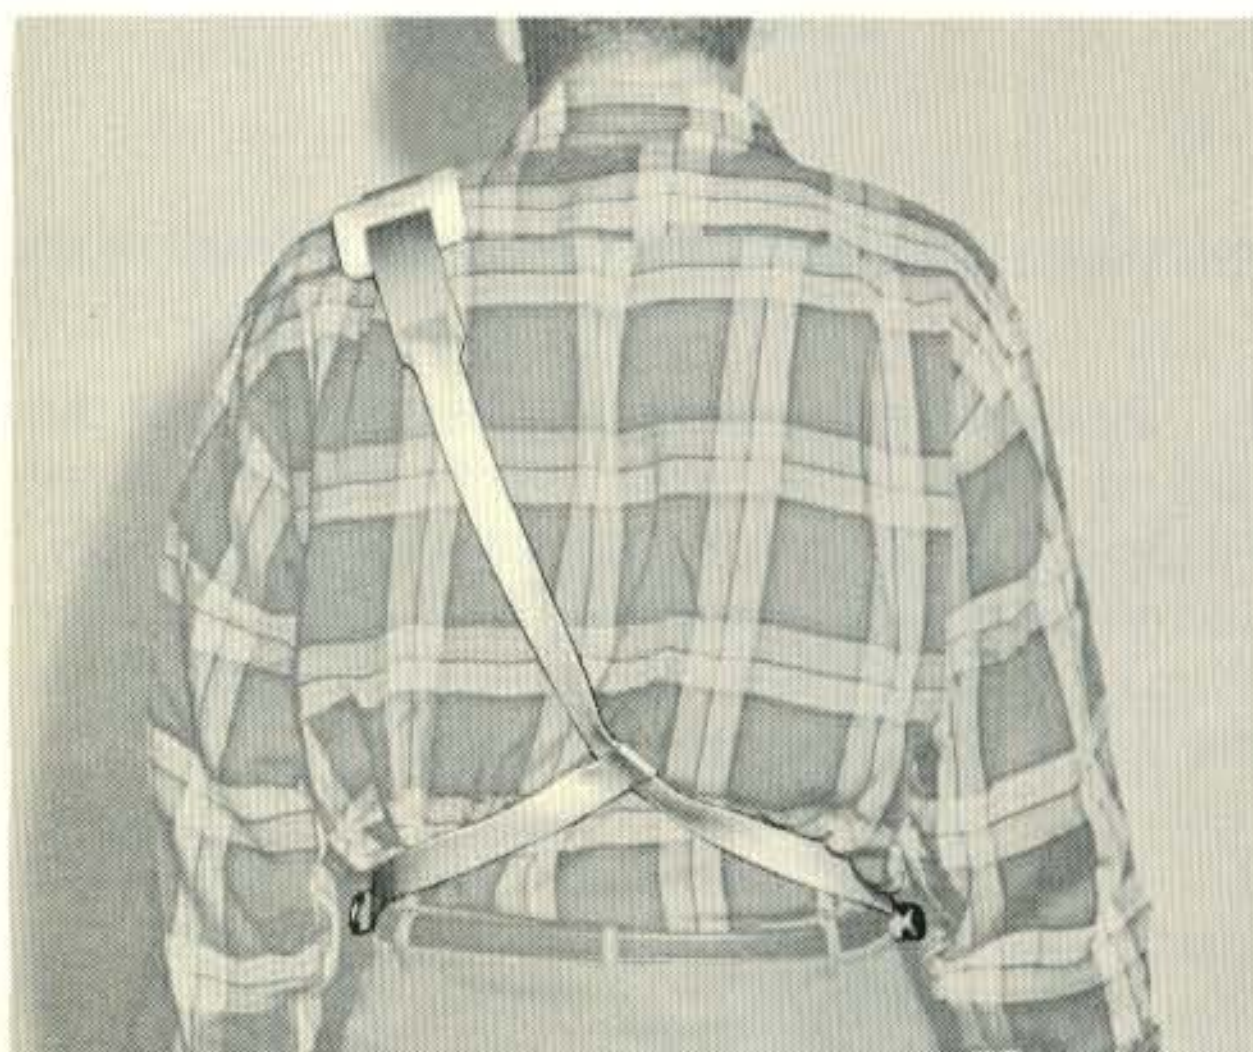
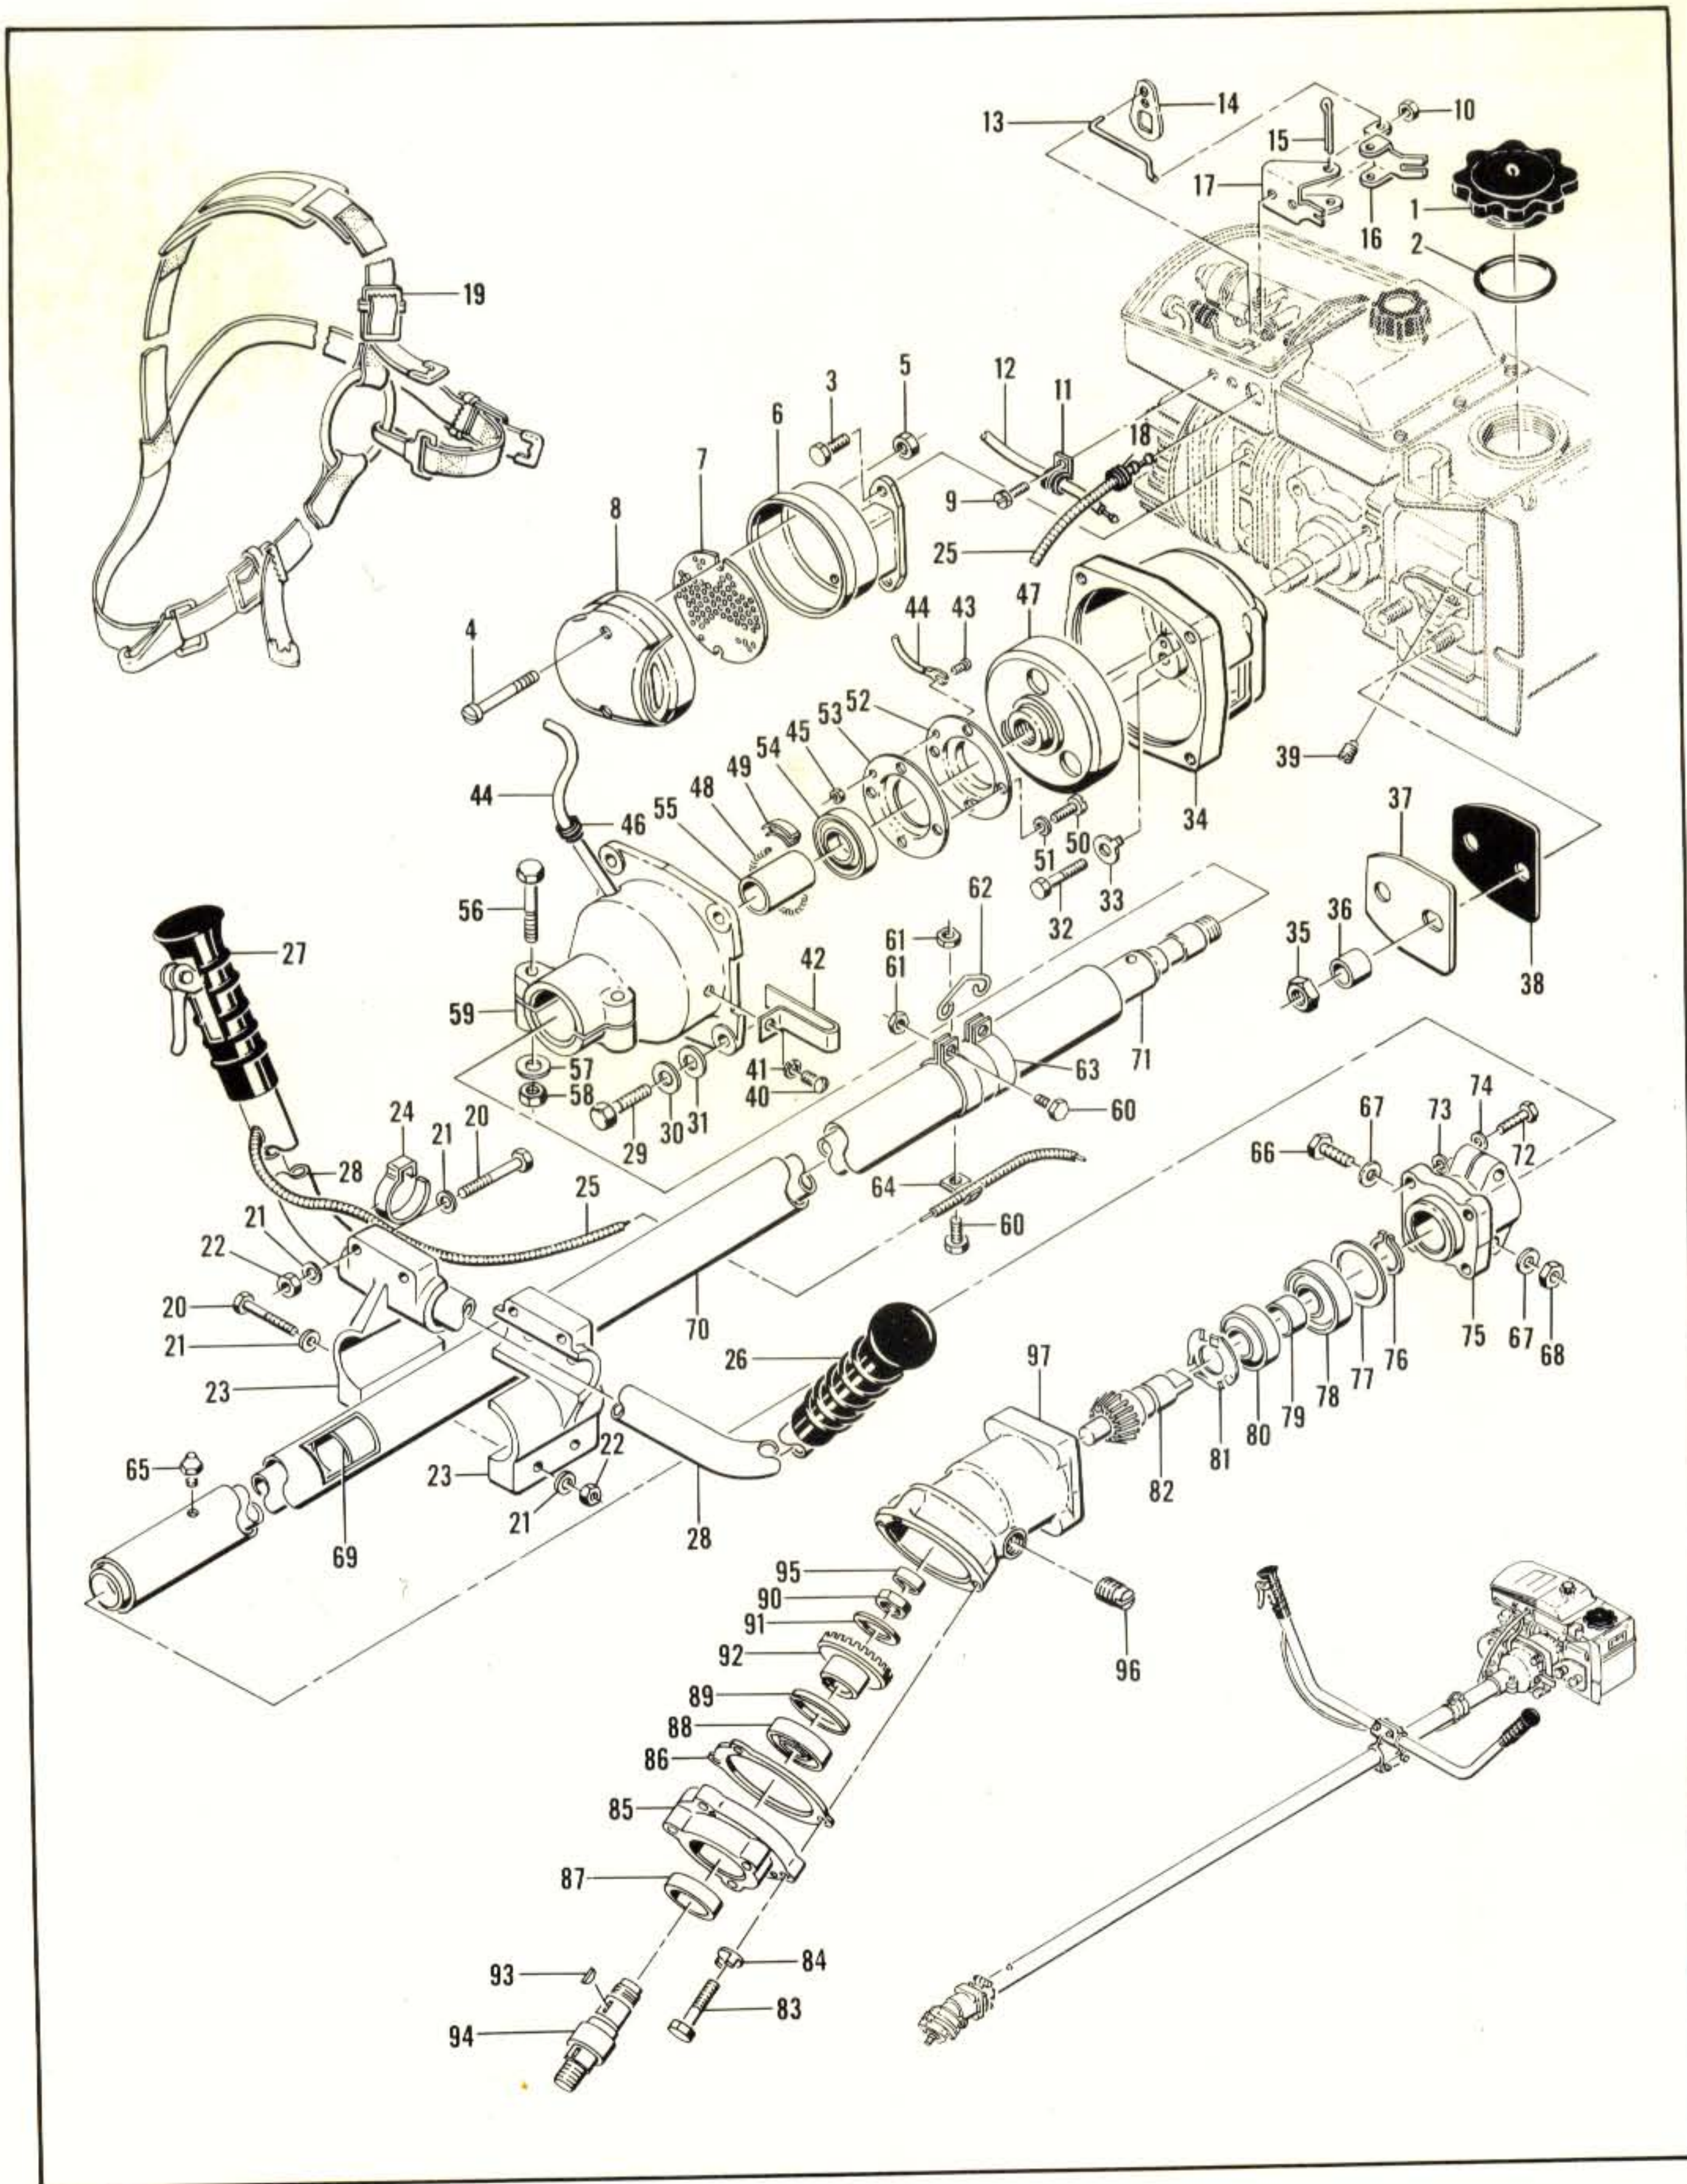

Figure 17. Manner of Wearing Harness
Figure 18. Exploded View 57600 Drive Unit and Accessory Kits
3. Remove the fuel vent orifice assembly from the bar mounting pad and install the Fuel Tank Vent Plug (P/N 57595). See Figure 18. Install the Cover Plate Gasket (P/N 57437), Cover Plate (P/N 50485), and the Spacers (P/N 50484) on the bar mounting studs and secure with two hex nuts (P/N 103729) (see Figure 18).
Wear the carrying harness in the same way as shown in Figure 17. The pad goes over the left shoulder; the stabilizing strap passes around the left side from the back and snaps onto the ring in front. The snap clamp with the roller, hooks on the harness hanger on the drive shaft housing (Figure 18).